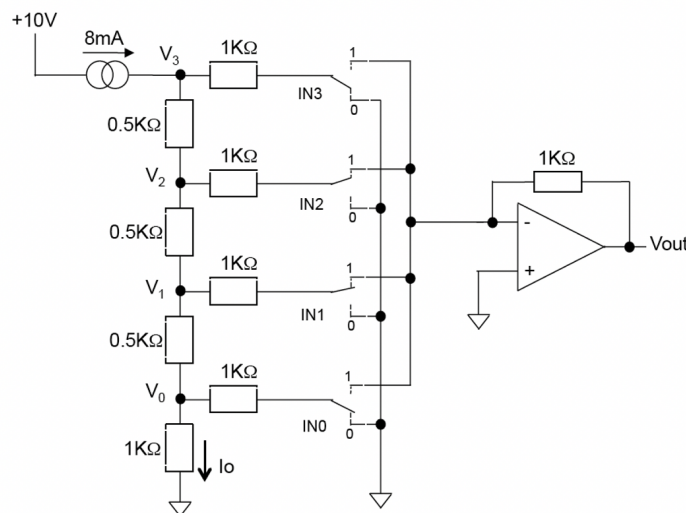

Figure 1.2
- (ii) Figure 1.2 shows a circuit for a R-2R 4-bit DAC with input $IN[3:0] = 4'b0110$. The resistor network is supplied via a $8mA$ ideal current source. The digital inputs $IN[3:0]$ control the four 2-way electronic switches. The output V_{out} is driven by an ideal operational amplifier. [4]